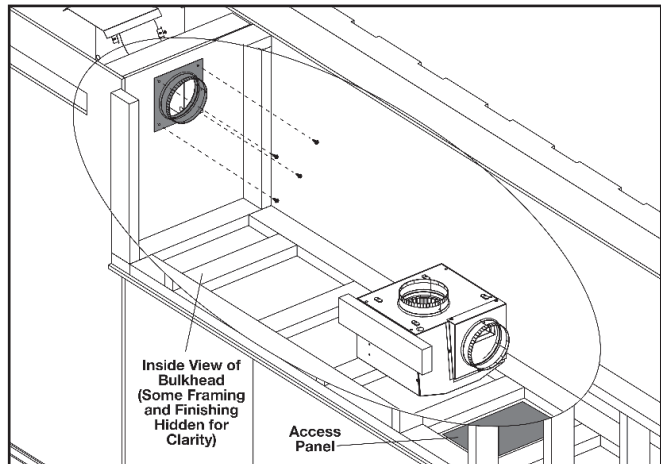

Fig. 2
2. Fasten the wall flashing onto the hot air exhaust assembly using 4 screws (supplied) (**Fig. 2**).
2. Secure the 6" (152mm) collar plate assembly over the hole with the appropriate fasteners (not supplied) (Fig. 2).